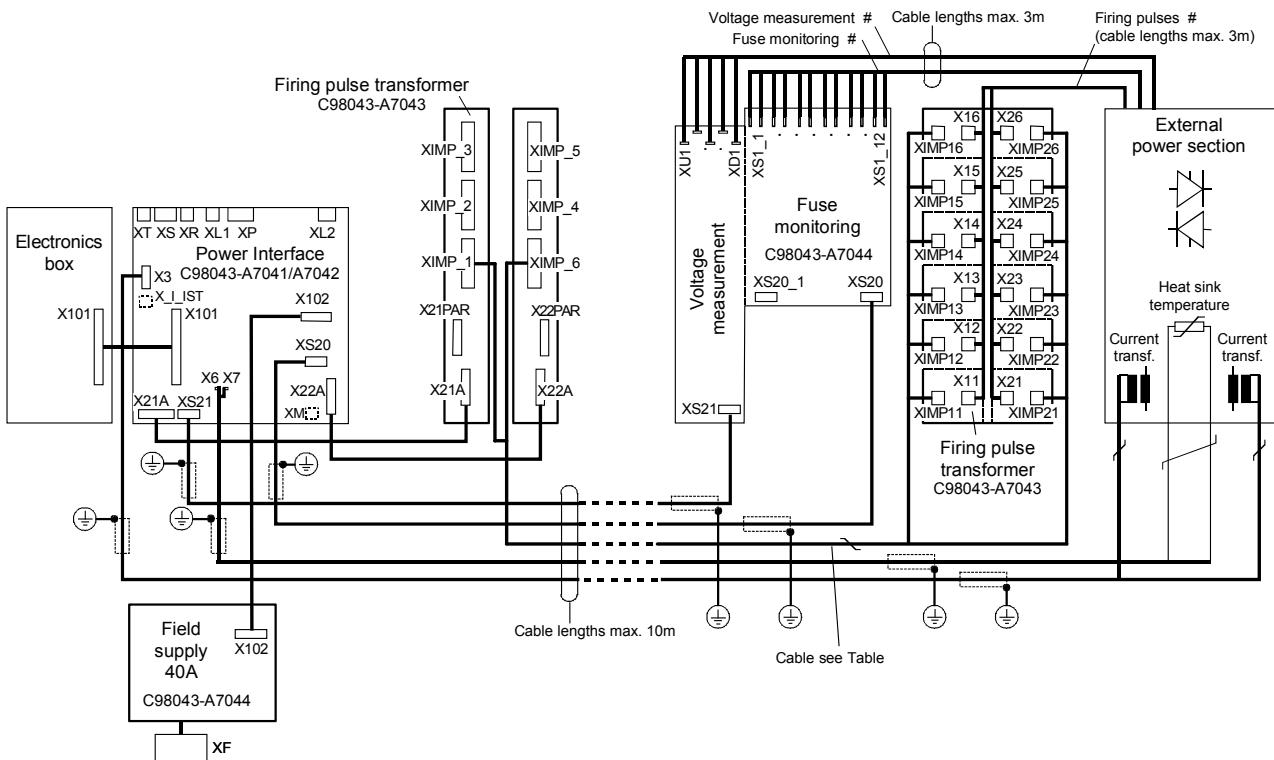

Fig. 6.4.3
**3. Rear and front trough mounted one on top of the other or separately, modules C98043-A7043 C98043-A7044 separated (firing pulse transformer, voltage measurement, and fuse monitoring mounted with power section), field supply remains in trough (Fig. 6.4.3)**